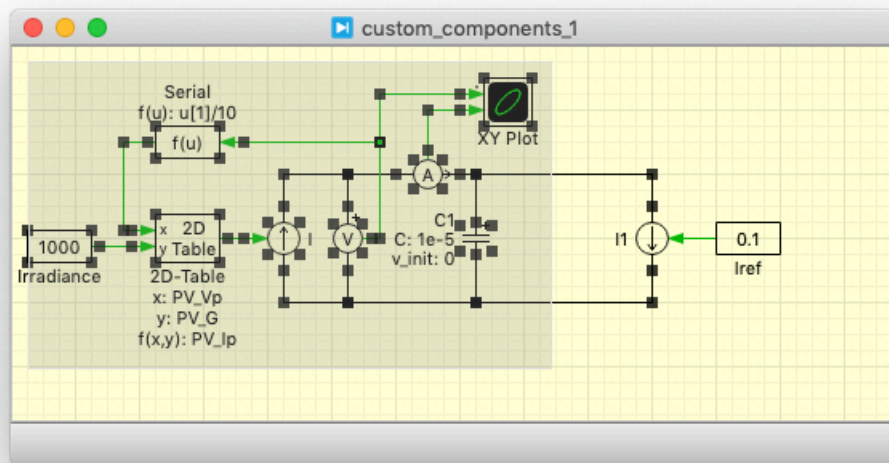

Figure 2: Select components to be contained in the subsystem
- 1 Select the components to be contained in the subsystem as shown in Fig. 2 and right-click and choose **Create Subsystem** or press **Ctrl + G**.